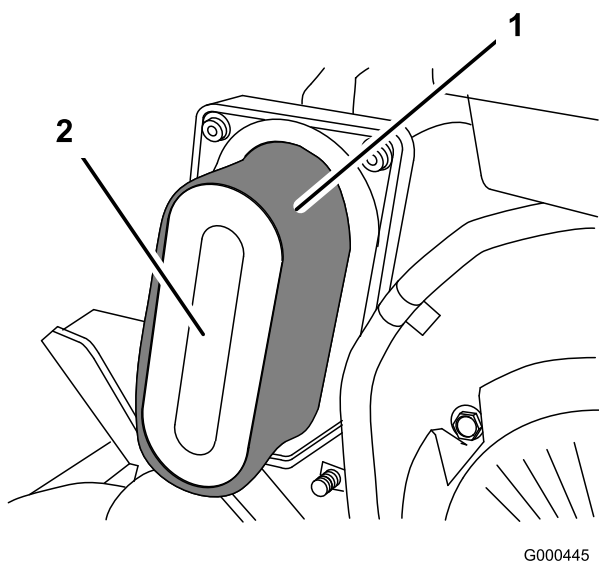

Figure 24
3. If foam element is dirty, remove it from paper element (Figure 24). Clean thoroughly.